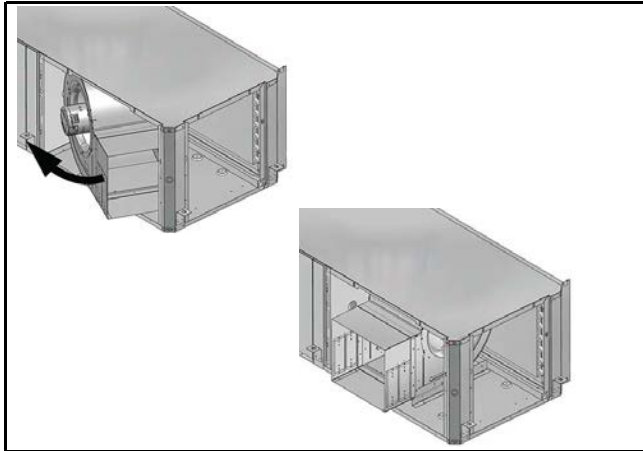

Fig. 15
6. Rotate the blower into its new position. (See Fig. 15.)